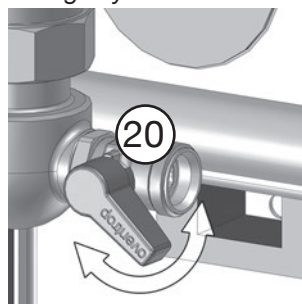
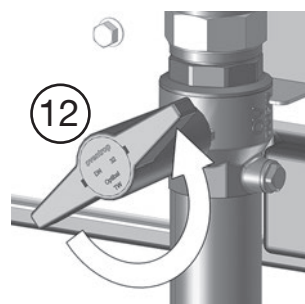

Fig. 5.10: Bleed the storage cylinder circuit side
Fig. 5.11: Open the isolating ball valve PWC side
14. **Bleed the storage cylinder circuit** side by opening the **fill and drain ball valve (20)** until water escapes (Fig. 5.10).
15. Close the fill and drain ball valve (20) again.
16. Open the isolating ball valve (12) (PWC) **slowly** (Fig. 5.11).